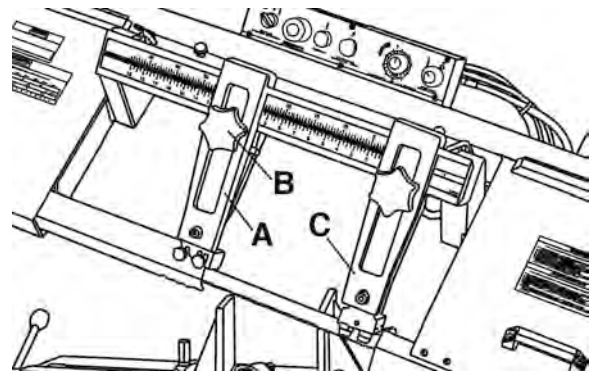

FIGURE 8
The blade guide support arm (A) Fig. 8, should be set as close to the workpiece as possible. To move the support arm, first loosen clamp knob (B). Move the support arm (A) into relationship with the workpiece. When you are sure the support arm will not interfere with the workpiece, tighten clamp knob (B). Although the second blade guide support arm (C) works in the same manner, its complete right position should not be changed.